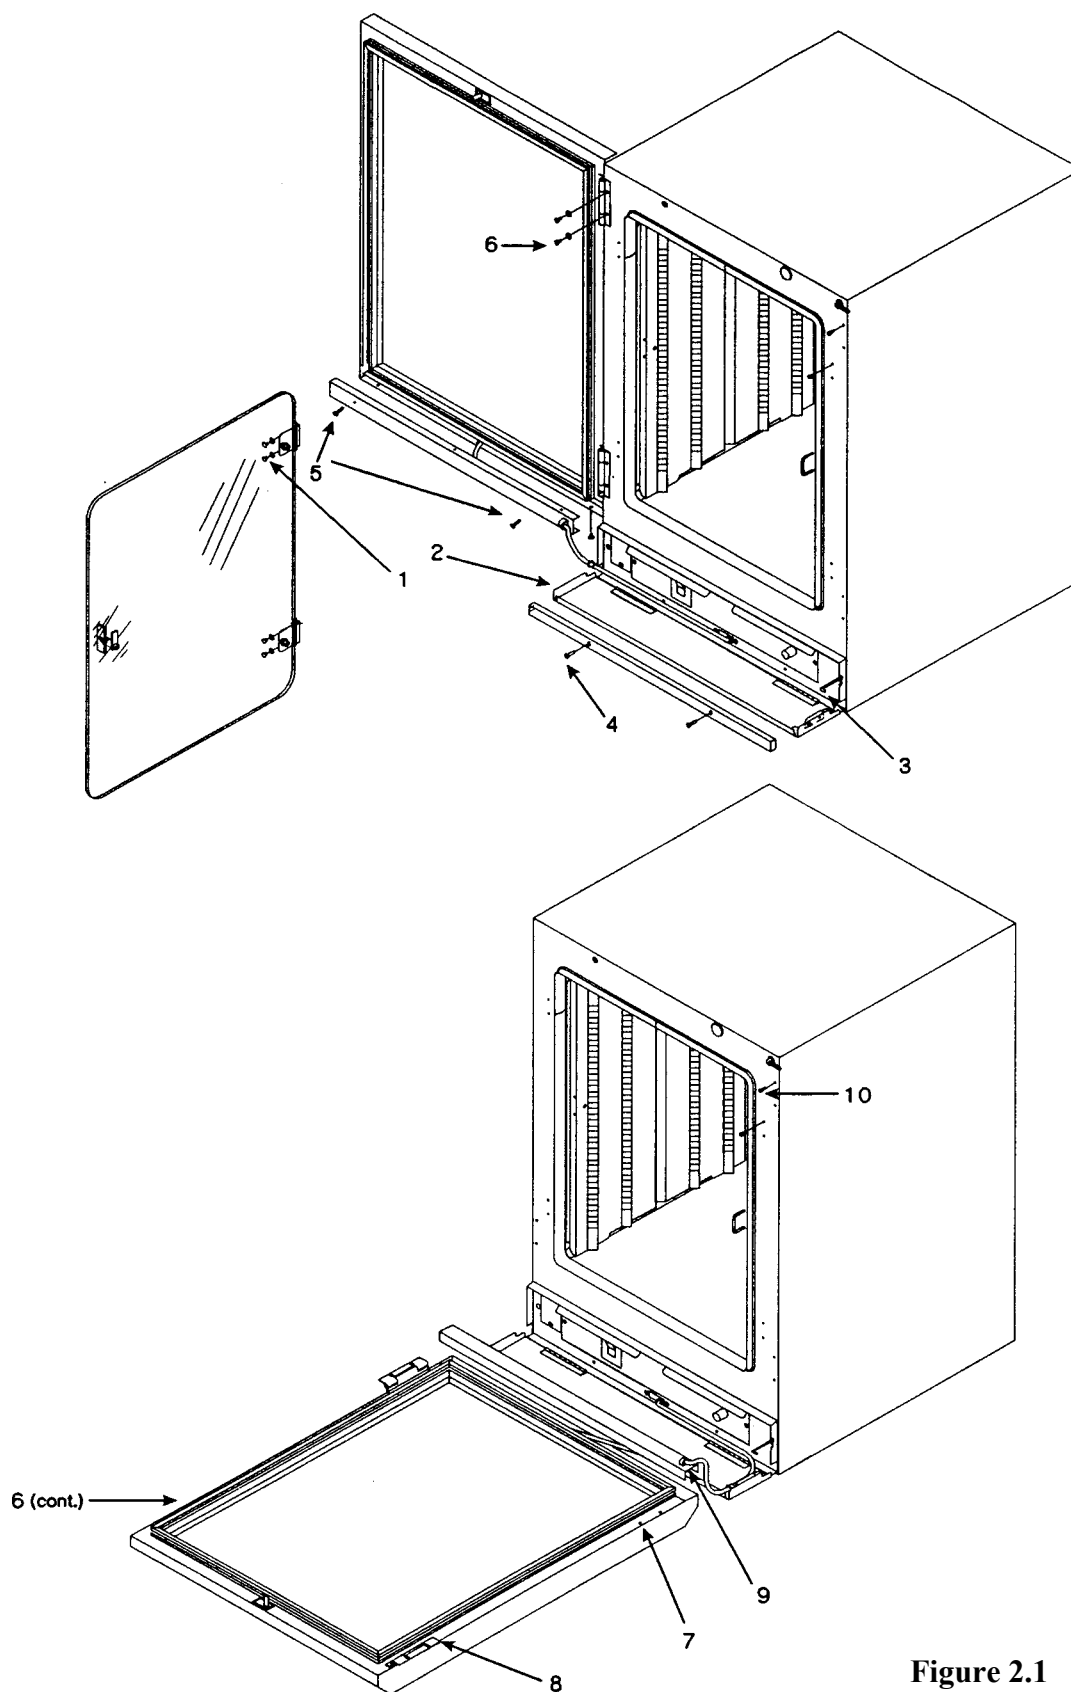

Figure 2.1
2.4 Installing the Side Shelf Supports (Refer to Figure 2.1)